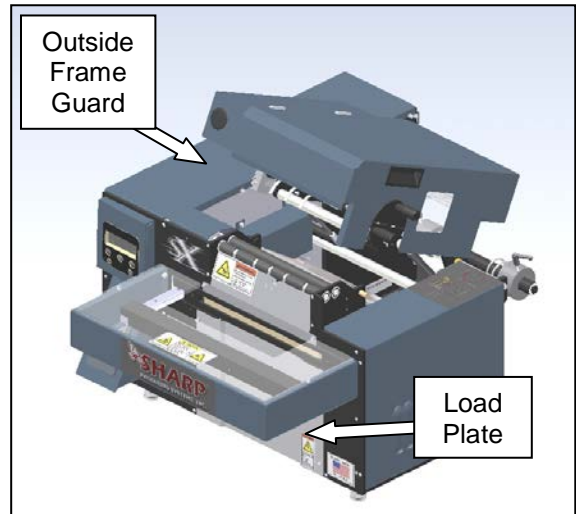

Figure 3-185. Guard Identification
1. Remove the outside frame guard and the load plate. (See Figure 3-185.)